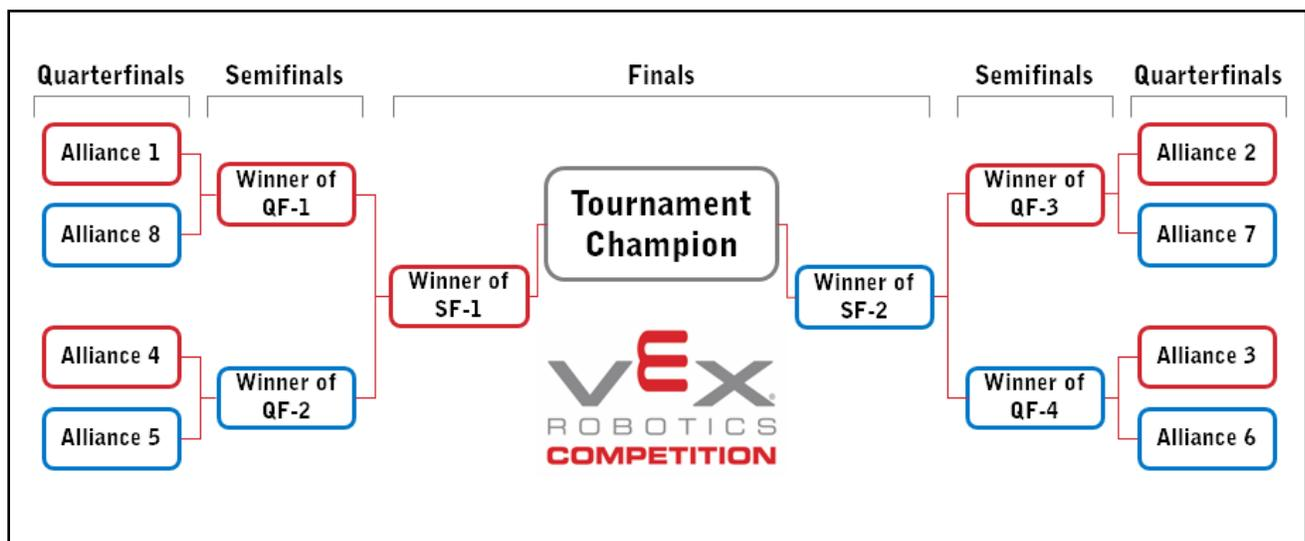

Figure 28: An 8-alliance bracket
Thus, an eight (8) Alliance bracket would run as shown in Figure 28, bypassing the Round of 16:
<T19> Small tournaments may have fewer Alliances. Events (or divisions within an event) with 32 or more *Teams* must use 16 two-*Team Alliances* for *Elimination Matches* as shown in Figure 28. Events with fewer than 32 *Teams* (i.e., the requisite amount for 16 full *Alliances*) must limit the number of *Alliances* by dividing the number of *Teams* by two, less any remainder.